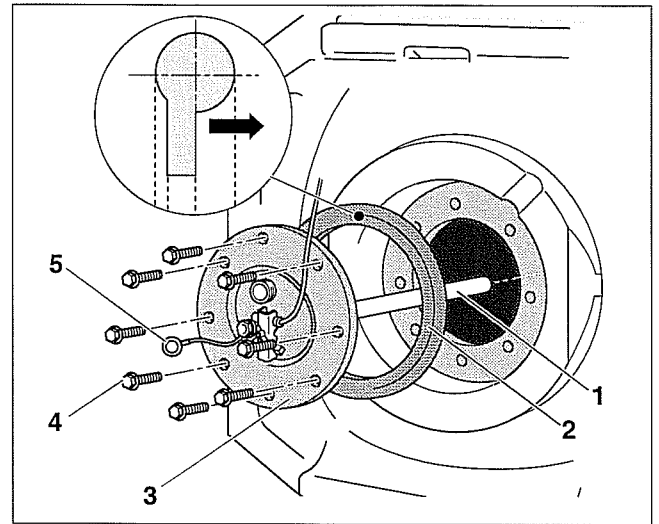

Fig. 19 Installing a new anode rod
- Install the clean-out cover together with magnesium anode (Fig. 19, **Item. 1**) back in the tank. Observe the orientation of the tank gasket. The word "Deckelseite" must be facing the clean-out cover.
- We recommend using a new gasket (Fig. 19, **Item. 2**) when changing out the Magnesium anode to avoid a leakage at the tank.
- Tighten hex head bolts (Fig. 19, **Item. 4**) by hand.
- Make sure to securely tighten the ground cable (Fig. 19, Item 5) with a wrench to the clean-out cover to ensure a good electrical connection.
- Tighten the hex head bolts for the clean-out cover with a $\frac{3}{4}$ turn using a wrench (Fig. 19, **Item. 4**).